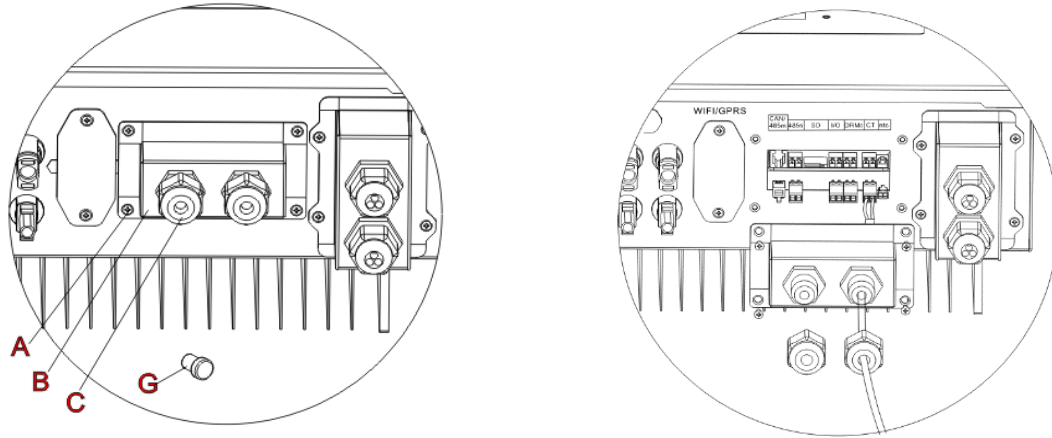

Fig. 12 CT / CAN / RS485 / NTC connection
Step 3: Loosen 4 screws (part A) using a screwdriver (Fig. 12)